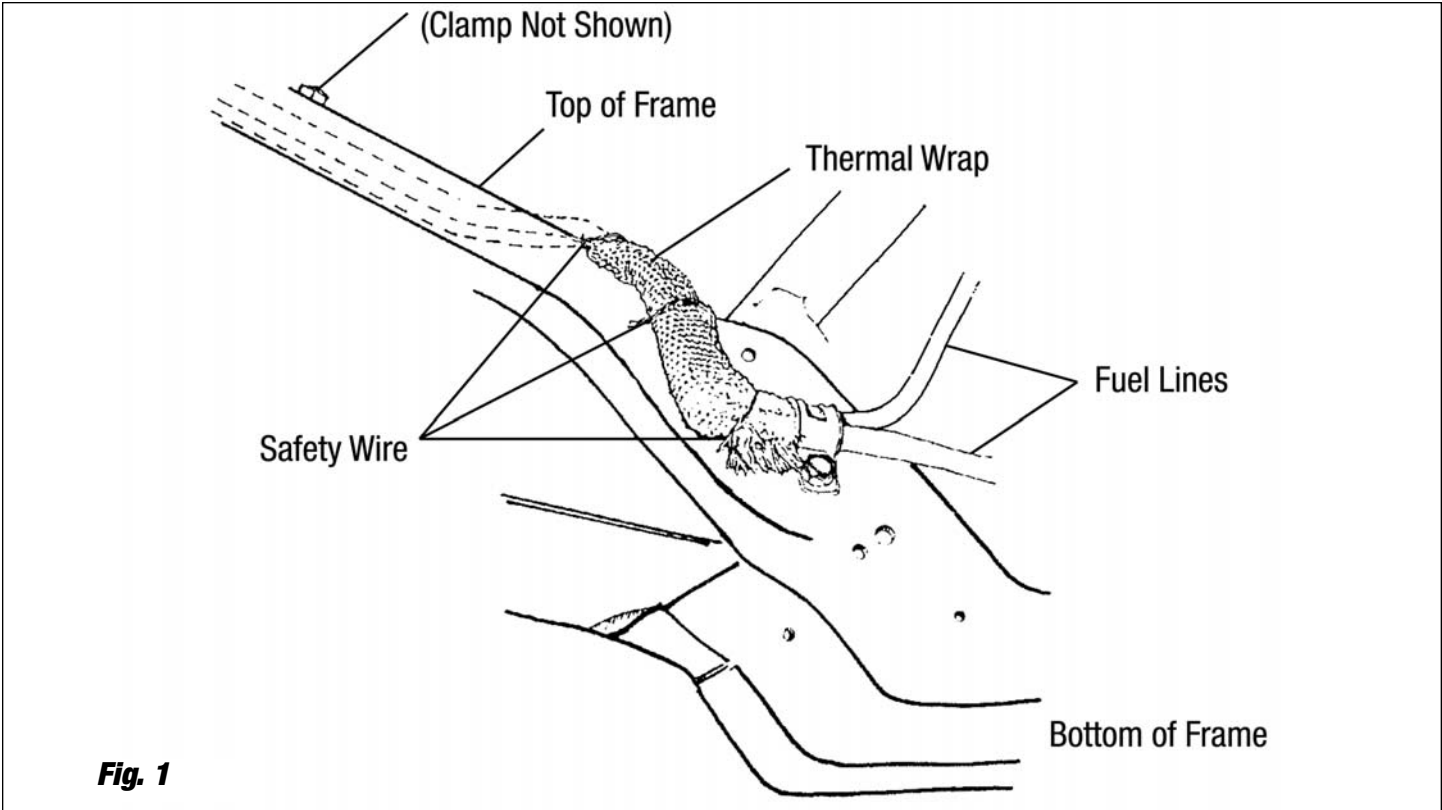

Fig. 1
4. Form thermo wrap around fuel lines as shown in **Figure 1**.